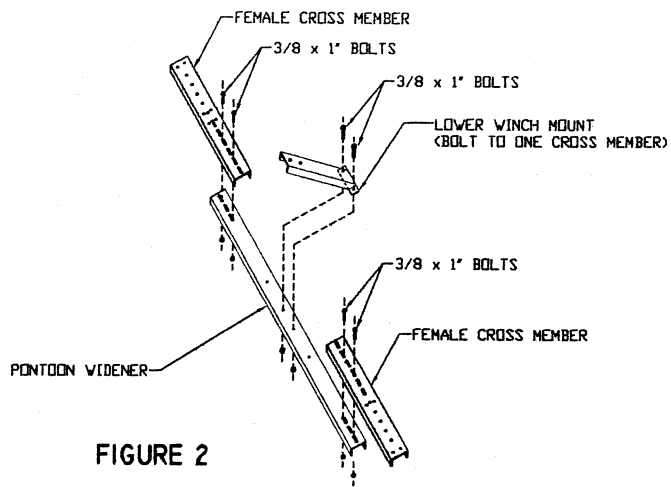

FIGURE 2
1. Assemble all of the cross members as shown in **Figure 2** with 3/8" x 1" bolts and lock nuts. Each cross member contains a pontoon widener and (2) end cross members. The overlap areas are slotted so that you may achieve the correct measurement "W". With the first such assembly, lay the parts out in such a way that the measurement between the holes for one pontoon's outer rail and the other pontoon's inner rail equals your measurement "W". *Remember to use the inner holes for your setting for "PW".* Use two 3/8" x 1" bolts and lock nuts in each end cross member to attach it to the ends of the pontoon widener. With the bolts loosely screwed slide the parts so that each end of the pontoon widener overlaps the end cross members equally. (Having the widener centered is especially important with the two front winch end assemblies.) Assemble all cross member assemblies insuring the correct width "W". If you purchased extra rail sections, it is easiest assemble the cross member assemblies for it at this time.
2. On one of the cross member assemblies attach the Lower Winch Post. See **Figure 2**. Use two 3/8" x 1" bolts and lock nuts to attach it to the center holes of one of the cross member assemblies.